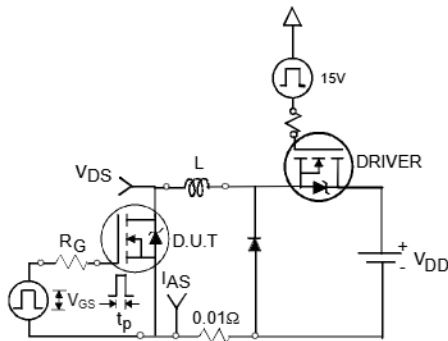

Fig 12a. Unclamped Inductive Test Circuit
- ③ $I_{SD} \leq 75A$, $di/dt \leq 220A/\mu s$, $V_{DD} \leq V_{(BR)DSS}$, $T_J \leq 175^\circ\text{C}$.
- ④ Pulse width $\leq 1.0\text{ms}$; duty cycle $\leq 2\%$.
- ⑤ $C_{oss\text{ eff.}}$ is a fixed capacitance that gives the same charging time as C_{oss} while V_{DS} is rising from 0 to 80% V_{DSS} .
- ⑥ Limited by T_{Jmax} , see Fig.12a, 12b, 15, 16 for typical repetitive avalanche performance.
- ⑦ This value determined from sample failure population. 100% tested to this value in production.
- ⑧ This is applied to D²Pak, when mounted on 1" square PCB (FR-4 or G-10 Material). For recommended footprint and soldering techniques refer to application note #AN-994.
- ⑨ Max $R_{DS(on)}$ for D²Pak and TO-262 (SMD) devices.
3. Equation below based on circuit and waveforms shown in Figures 12a, 12b.